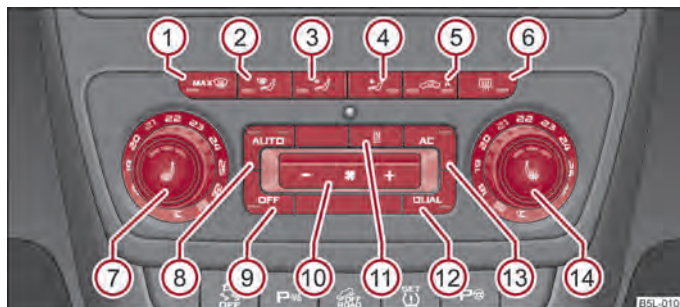

Fig. 92 Climatronic: Control elements
- Press the button **AUTO** ⇒ fig. 92.
- Press the button (AC) → fig. 92. The warning light lights up in the button.
- When you again press the switch (AC), the cooling system is switched off. The warning light in the button goes out. Only the function of the ventilation remains active when no lower temperature than the outside temperature can be reached.
- You can set the temperature for both sides after switching on the ignition with the control dial ⑦ → fig. 92.
- If you wish to set the temperature for the right side, turn the control dial ⑭. The warning light in the button (DUAL) lights up, this indicates that differing temperatures for the left and right side can be set.
- If the windscreen mists up, press the button  ① ⇒ fig. 92. After the windscreen has been demisted, press the button .
- Press the button  ⇒ fig. 92.